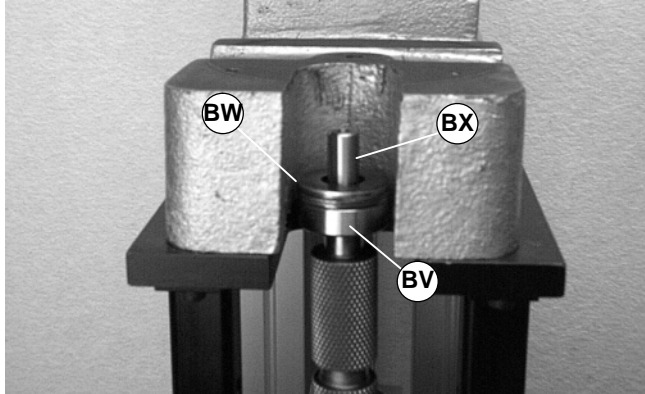

Figure 54
2. Place two (2) 5/8 flat washers, or equivalent (BW of Figure 54), over the pulley shaft (BX) and against bearing (BV) (part # 802-124).